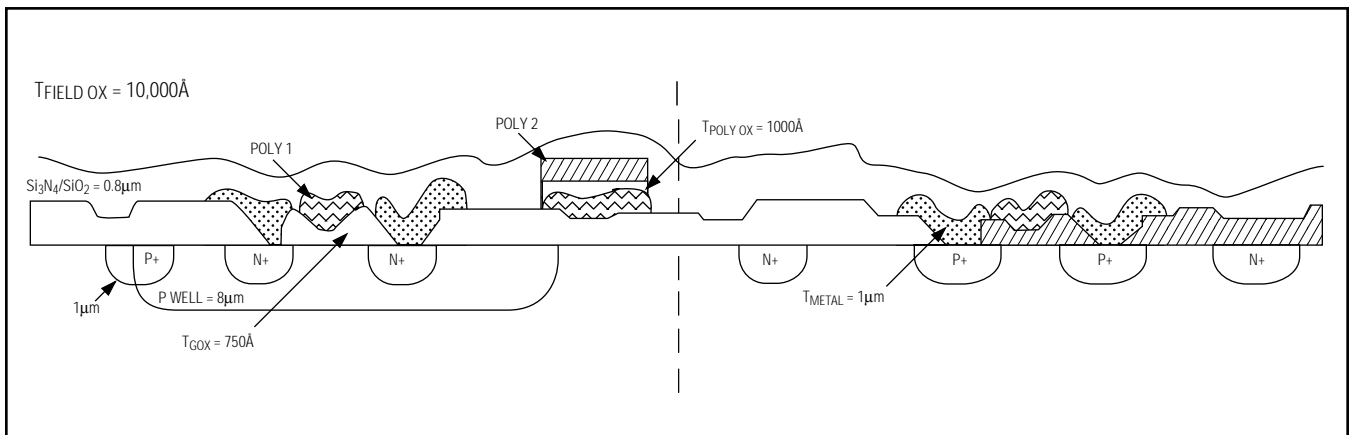

Figure 5. SG5 Process
### (5) SG5 (Refer to Figure 5)